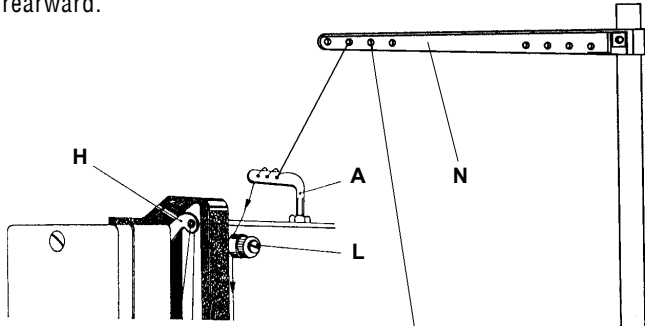

Fig. 1
6.1 Upper thread threading (Fig. 1, 2)
6.4 Adjustment of the upper thread tension (Fig. 1, 2, 5)
When the machine is provided with a thread cutter of thread (version -105), its correct function is to be given major attention in adjusting correctly the thread tension. It is necessary to set correctly the auxiliary tensioner (L, Fig. 1) the function of which influences the length of the upper thread end which is projecting from the needle eye after having cut the thread. When correctly setting of the tensioner, the quality of the initial stitches is good and no unthreading of the thread out from the needle occurs. When increasing the adjusted tension of the auxiliary tensioner this end is shorter (the seam starts are of better quality), but there is an increased danger that this length will not be sufficient for starting further stitching, when the thread would leave the needle eye. In the opposite case, namely with a too small tension, the given ends are uselessly too long which worsens the quality of the stitch start on the rear side of the sewn material.